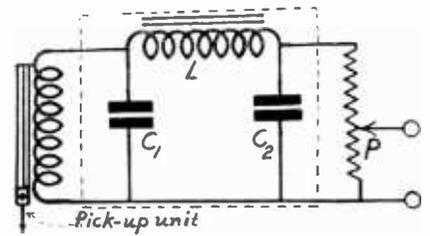

FIG. 565
(1) See Fig. 565 for such a circuit.
(2) The essential elements of a scratch filter are the same as the elements of a low pass filter, namely, series inductances and shunt condensers. The scratch filter
indicated in Fig. 565 contains one 85 millihenry choke coil and two .005 mfd. condensers.
In Fig. 565 C1 by-passes most of the high frequency current. The choke coil L throttles down any high frequency currents which would pass into the line. Condenser C2 aids the coil in this action and at the same time by-passes. Hence the high frequency currents passing through the potentiometer P are very minute and are not strong enough to give rise to any hissing or scratching noises in speaker.